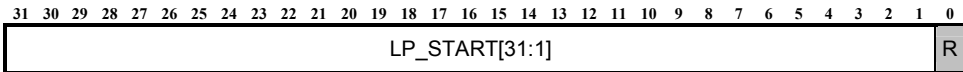
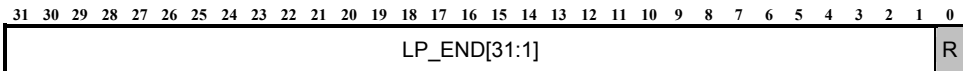

Figure 3.5 LP_START Register
Figure 3.6 LP_END Register
The loop start (LP_START) and loop end (LP_END) registers contain the addresses for the zero delay loop mechanism. Figure 3.5 and Figure 3.6 show the format of these registers. The loop start and loop end registers can be set up with the special loop instruction (LP) or can be manipulated with the auxiliary register access instructions (LR and SR).